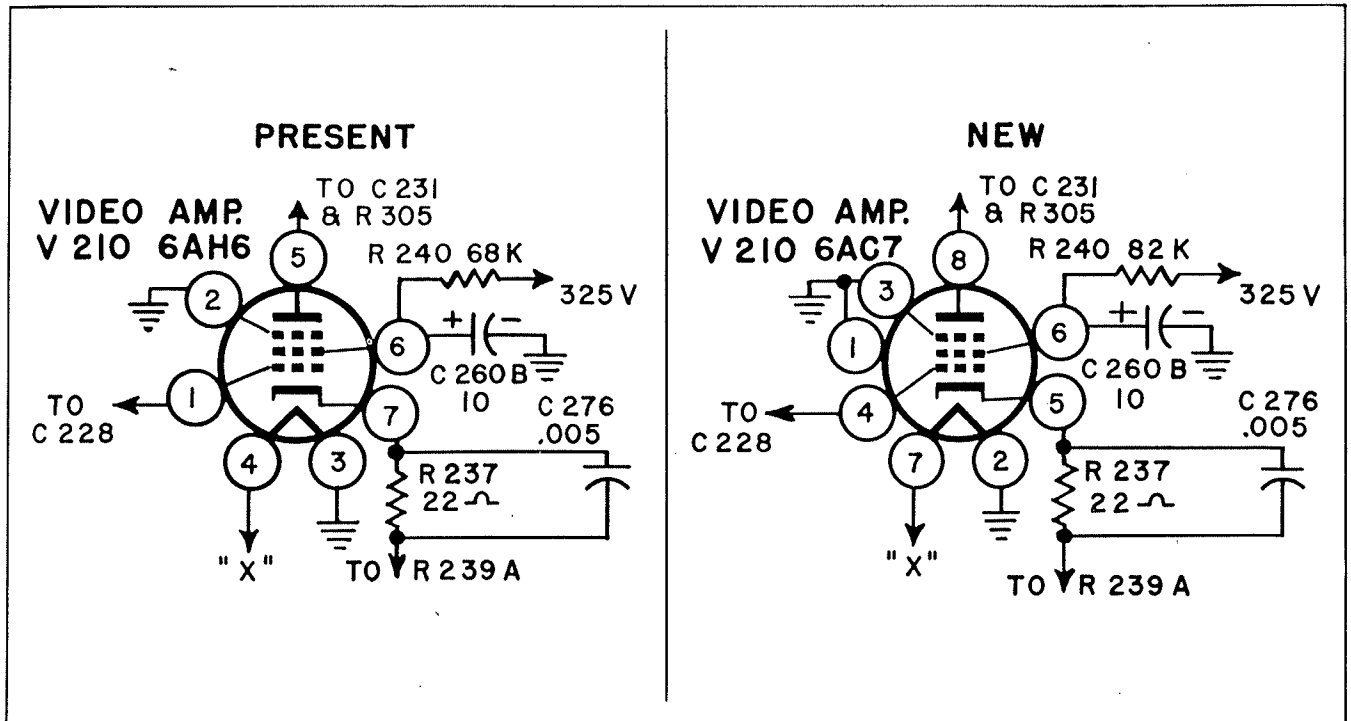

FIGURE P-1
1. Rewire V210 as shown in figure P-1.